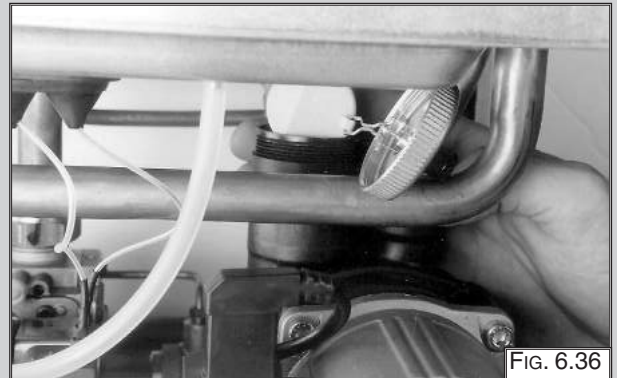

FIG. 6.36
2. Remove valve complete with float (FIG 6.36).